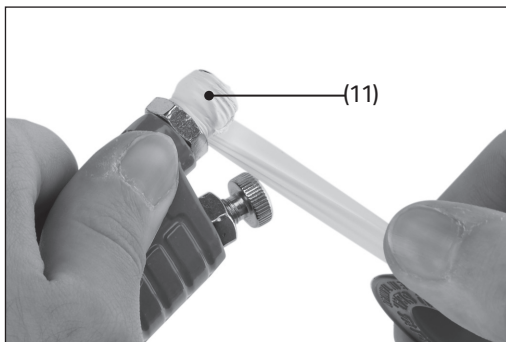

Fig. 4
3. Wrap a length of PTFE tape around the spray gun air line inlet (11) (Fig. 4).